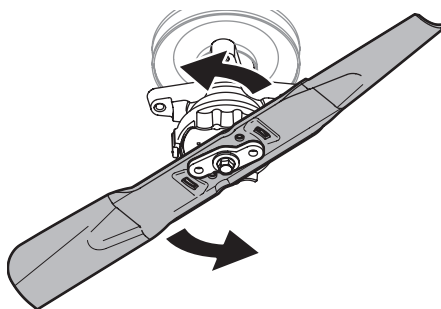

Figure 44
4. While holding the collar in the upward position, rotate the blade counter-clockwise to free it from the collar. See Figure 44.